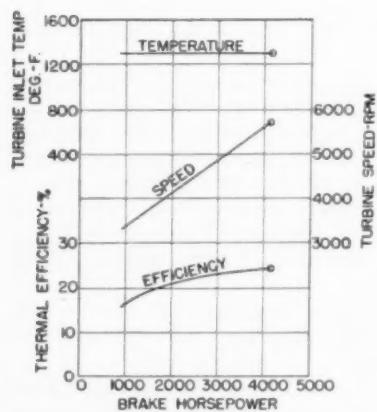
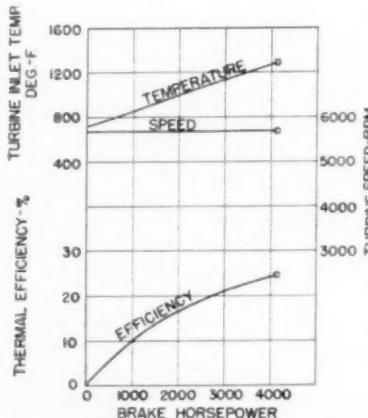
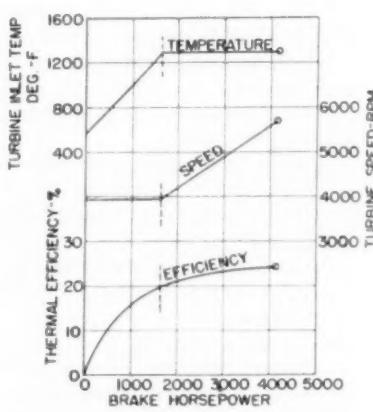

FIG. 2 4100-BHP GAS-TURBINE-PLANT PERFORMANCE DATA; SPEED CONTROL
FIG. 3 4100-BHP GAS-TURBINE-PLANT PERFORMANCE DATA; TEMPERATURE CONTROL
FIG. 4 4100-BHP-GAS-TURBINE-PLANT PERFORMANCE DATA; COMBINED SPEED AND TEMPERATURE CONTROL
*Constant Temperature-Varying Speed Operation.* When the unit operates at constant design temperature and variable speed over its load range, the highest thermal efficiency results for all loads from approximately one-fourth load to full load. This operation is shown in Fig. 2. The efficiency at rated load, temperature, and speed is 24 per cent, while the efficiency at 1000 hp is shown to be 17 per cent at a speed of 3400 rpm. The unit may not be operated below the lowest point shown by the curve unless the initial temperature is reduced, since the pumping range of the compressor is approached at this point.
*Constant Speed-Varying Temperature Operation.* Fig. 3 shows the efficiency when operating at constant speed and variable temperature over the load range. While the efficiency shown at rated speed, temperature, and horsepower remains at the same value as shown in Fig. 2, it will be noted that at 1000 hp the tempera-
*Varying Temperature-Varying Speed Operation.* From the foregoing methods of operation, it is clear that in order to have the highest efficiency at light loads the turbine-inlet temperature should be maintained as near to the design temperature as possible. Therefore let us consider Fig. 4 which shows the efficiency decreasing from 24 per cent at rated speed, temperature, and horsepower to approximately 16 per cent at 1000 hp at a speed of 3900 rpm and a temperature of slightly over 1000 F. By comparing Fig. 2 with Fig. 4 we see that better efficiencies can be secured at light loads when the speed is reduced and constant temperature is maintained.
By the regulation of the speed and temperature, as shown in Fig. 4, the best over-all operating result is secured.